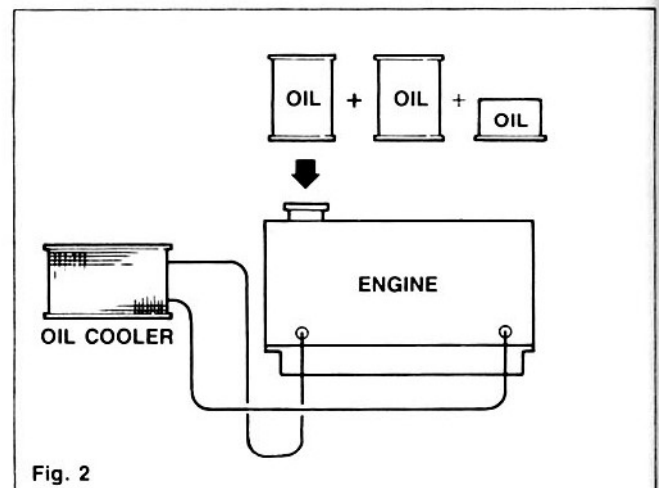

Fig. 2
- b. When the float is moved to the “DOWN” position, continuity should exist. (fig. 2)
There should be no oil in the oil pan, oil filter or oil cooler at this time. (fig. 2)